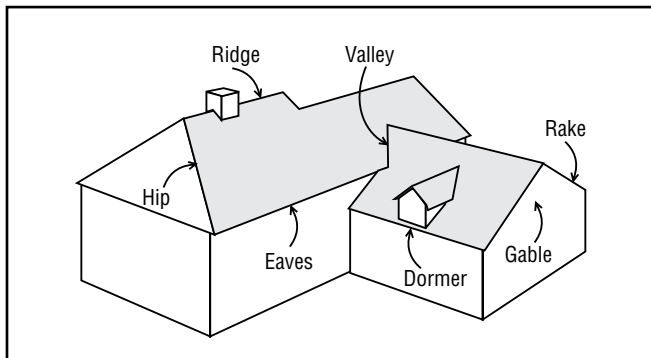

Figure GI-2
Dormer – A framed window unit projecting through the sloping plane of a roof (Figure GI-2).
Eaves – The horizontal, lower edge of a sloped roof (Figure GI-2).
Gable – The upper portion of a sidewall that comes to a triangular point at the ridge of a sloping roof (Figure GI-2).
Hip – The inclined external angle formed by the intersection of two sloping roof planes. Runs from the ridge to the eaves (Figure GI-2).
**Rake** – The inclined edge of a sloped roof over a wall (Figure GI-2).
**Ridge** – The uppermost, horizontal external angle formed by the intersection of two sloping roof planes (Figure GI-2).